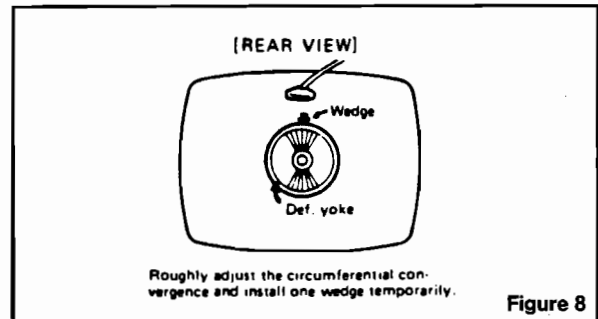

Figure 8
- 2.3 Adjust convergence around the edges of the picture tube by tilting the yoke up-down and left-right, and temporarily install one wedge at the top of the yoke or in a more optimum position. (Figs. 8, 9, 10)